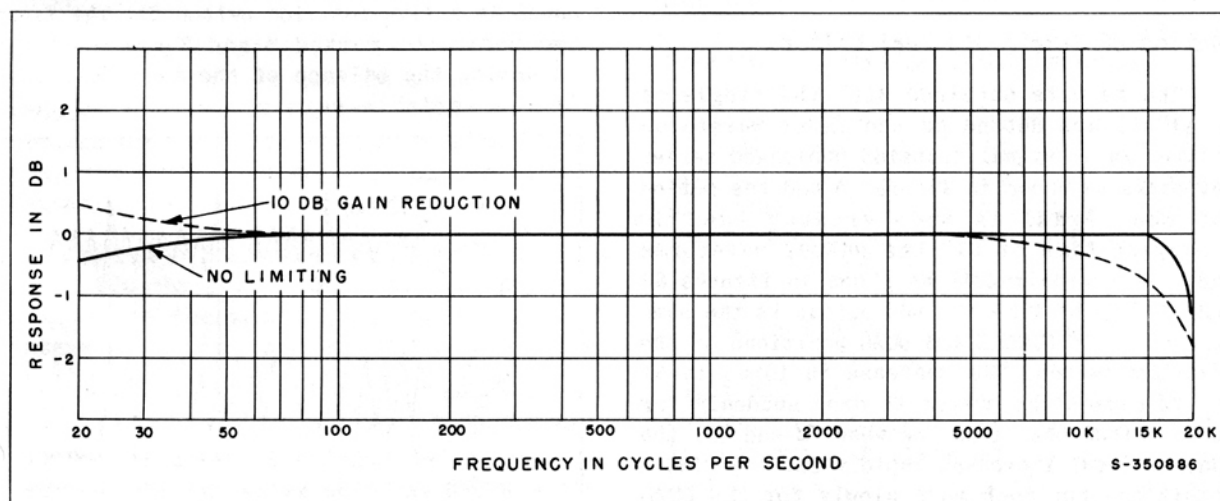

Figure 5 - Frequency Response
-2 db (see figure 5), 30-15,000 cps